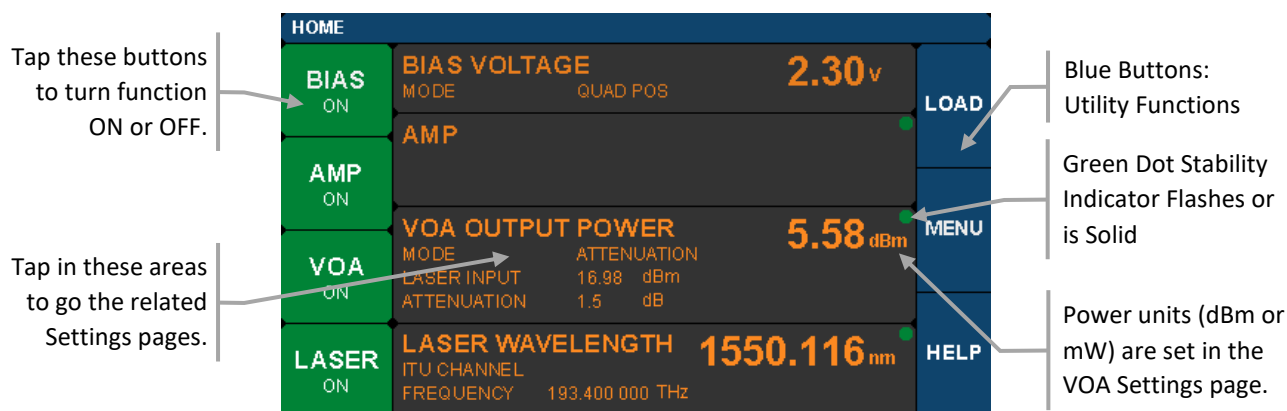

Figure 12 Home Screen Features
3. Turn the laser on by tapping the LASER touchscreen button on the Home page (Figure 12).
4. Enable the bias controller by tapping the BIAS touchscreen button on the Home page (Figure 12). Wait for completion of the calibration process. The instrument will enable the default Quadrature mode with positive slope bias point (Section 4.3).
5. Take note of the output power, which is shown in the center right section of the Home page (Figure 12).
6. Turn on the VOA controller to adjust output power, if desired, by tapping the VOA touchscreen button on the Home page (Figure 12 and Section 4.4).
8. Turn on the amplifier by tapping the AMP touchscreen button on the Home page (Figure 12).